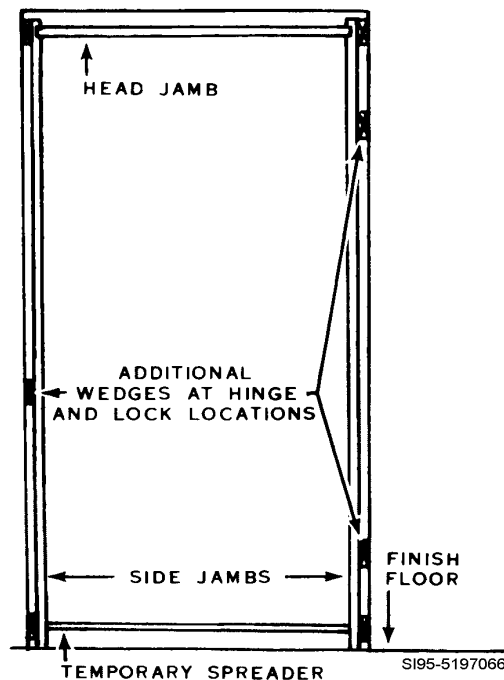

Figure 2, Setting interior door frame
- Two 8d finishing nails should be used at each shimmed area. Figure 2.